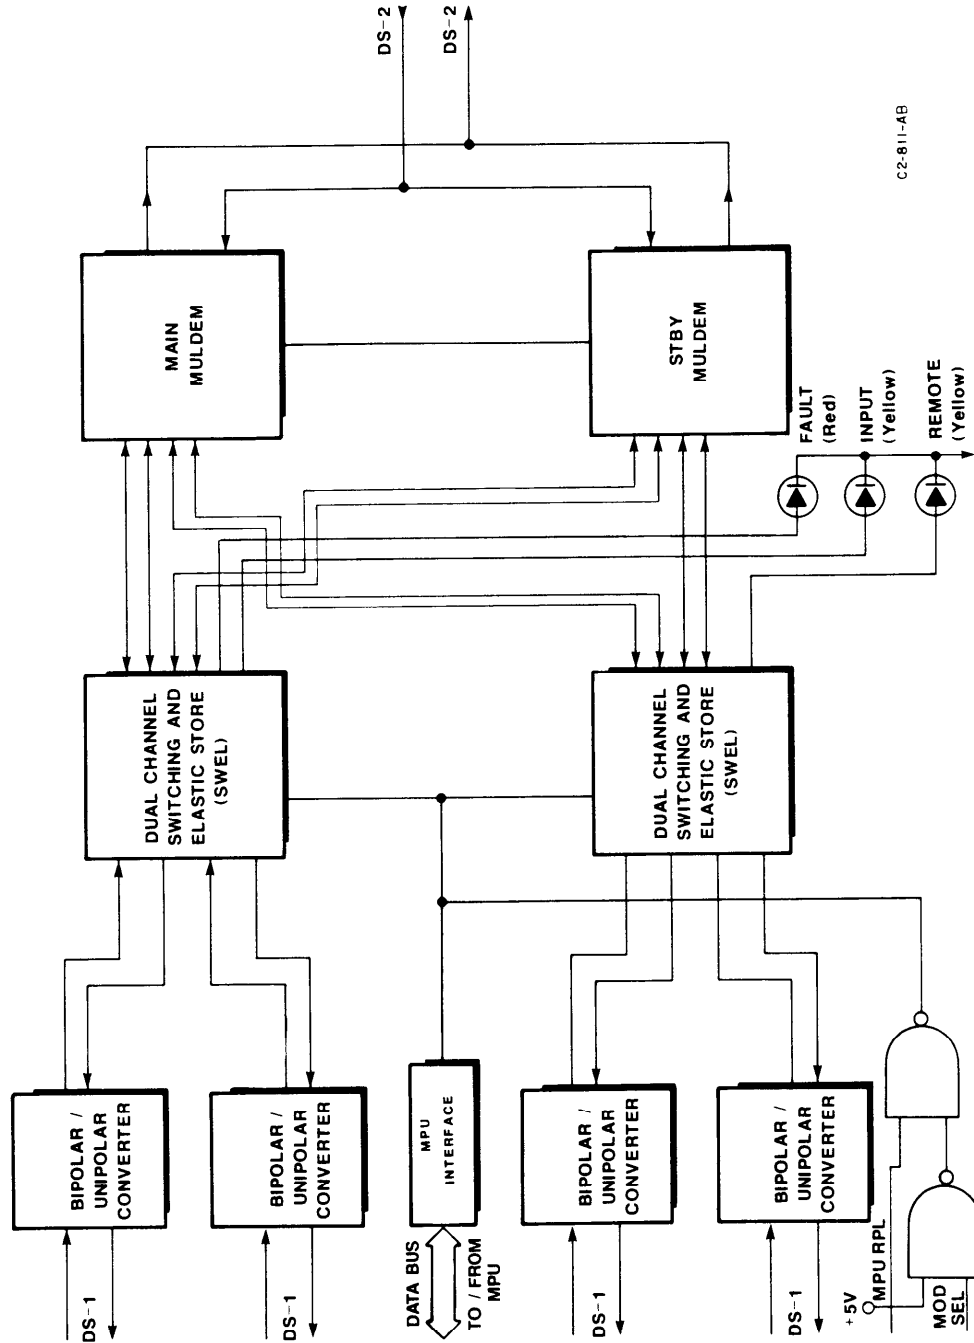

Figure 2. T1 LS Interface Card Block Diagram
2.01 The T1 Low-Speed Interface (LS INTER T1) card processes transmit and receive DS-1 signals, and contains redundant transmit and receive circuitry for protection. Only transmit processing is discussed here, since receive is the reverse of transmit. A functional block diagram of the LS INTER T1 card is shown in Figure 2.